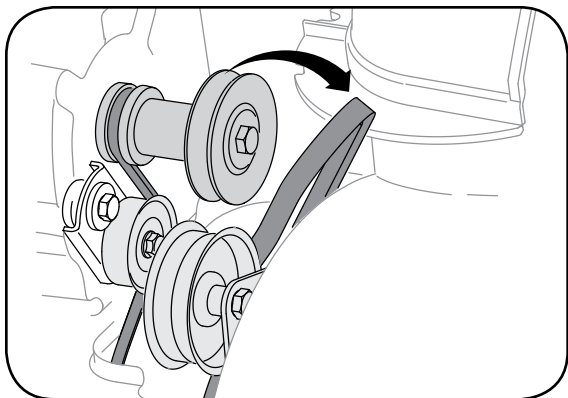

Figure 6-6
3. Roll the auger belt off the engine pulley, Figure 6-6.